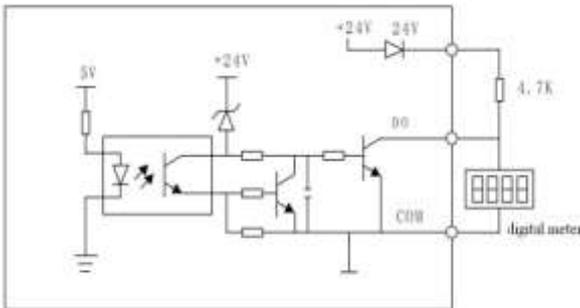

Fig. 3-11 Output terminal DO connection
- 3) Digital pulse frequency output DO is adaptable to frequency converter's power of 24 V. The wiring method is shown in Fig. 3-11.